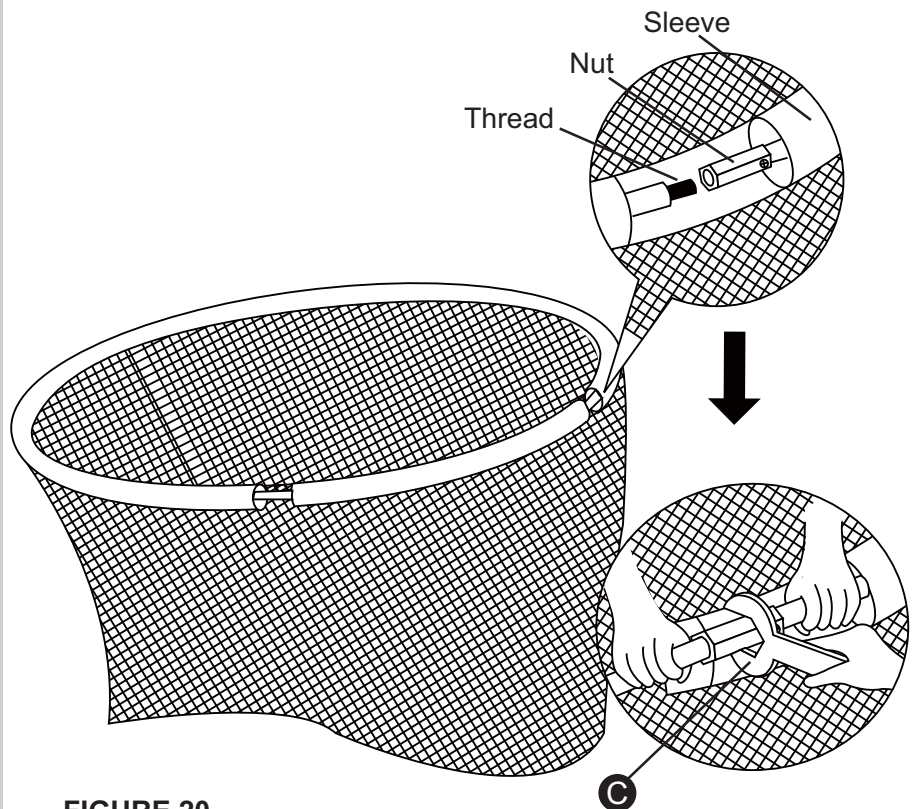

FIGURE 20
**B.** Connect the two end of CABLE WIRES together by connecting the thread to the nut using Wrench (#C) after all cable wires are inserted into the Enclosure Sleeve as shown in FIGURE 20.